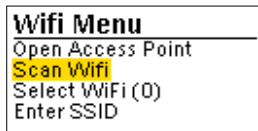

Fig 6. ENIAC Scan WiFi Command
11. A local scan will allow you to connect ENIAC to a WiFi network, without the need for another device or equipment, or if the Open Access Point method is unsuccessful. In order to perform the local scan you need to access the WiFi menu and select the ‘**Scan Wifi**’ option and press the encoder in to confirm (Fig 6.) You will also note that the next option ‘Select WiFi’ has the number 0 in brackets afterwards.